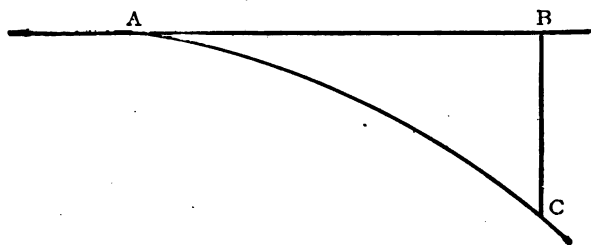

Fig. 21.
7. In Fig. 21, A B. represents a tangent, and starting at a point as A, it is required to reach the point C. From the starting point A, measure along the tangent to a point B, square across from C, then measure the perpendicular distance, B C. Then divide the square of the distance, A B, by twice B C, and to the quotient add $\frac{1}{2}$ B C, the result will be the required radius. The line of the perpendicular can be obtained by placing the gauge on the track, and sighting along it; or if A B is only a line of stakes, as the line of the frog produced, lay off on the ground the sides of a right angled triangle, 15, 20 and 25 feet are convenient lengths, always making 15 or 20, coincide with the given tangent. If the main line is curved, the measurements may be taken on the prolongation of the tangent through the starting point.